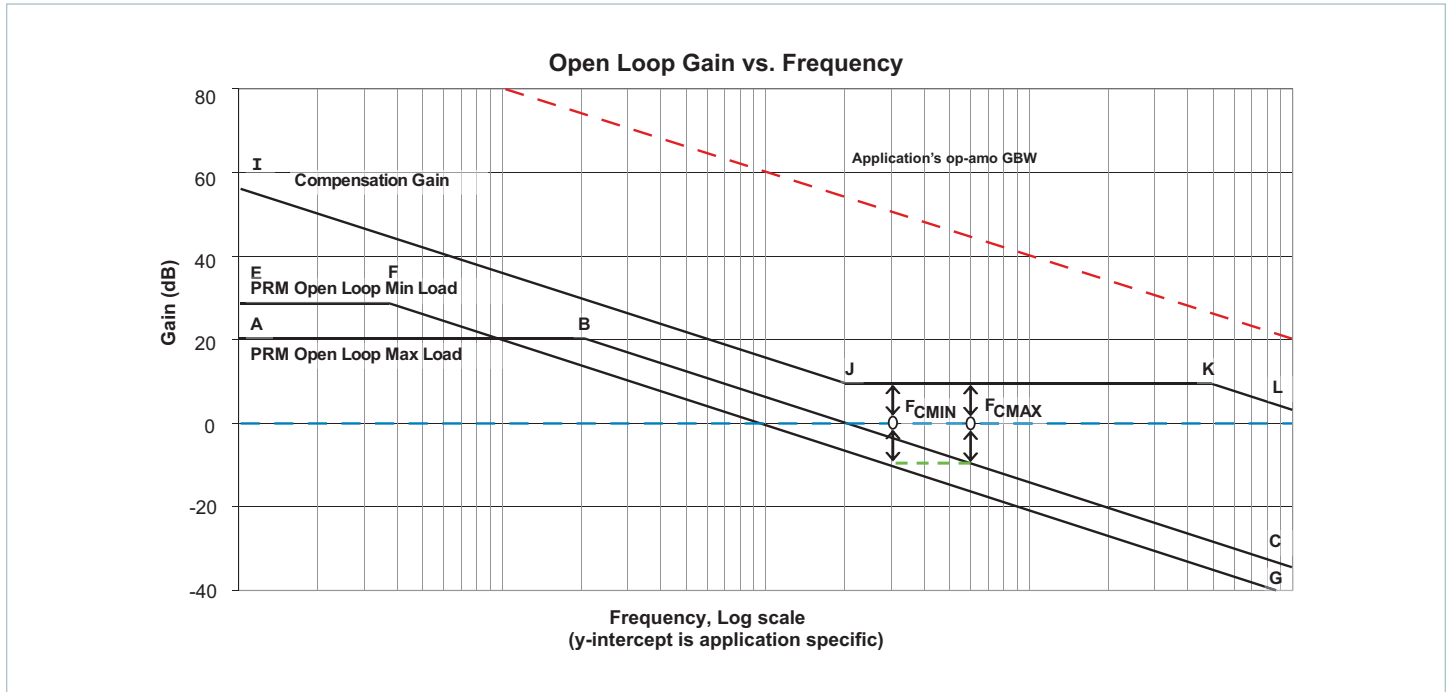
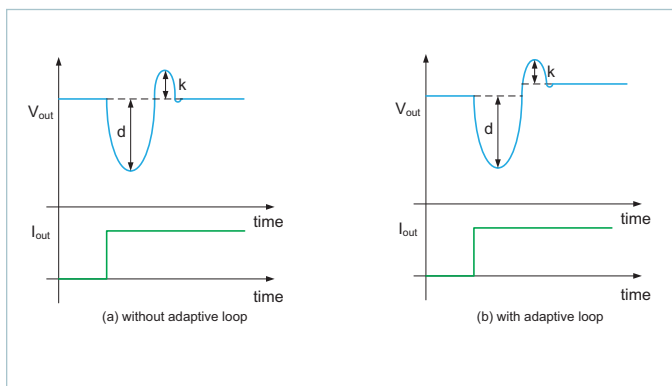

Figure 38 — Reference asymptotic Bode plot for the considered system
Figure 40 — Load step response example and "droop" vs. "kick"
Figure 40 illustrates an example of a load step response. Equation (11) can be used to predict the phase margin based on the ratio of the "kick" to "droop" (as defined in Fig. 38).